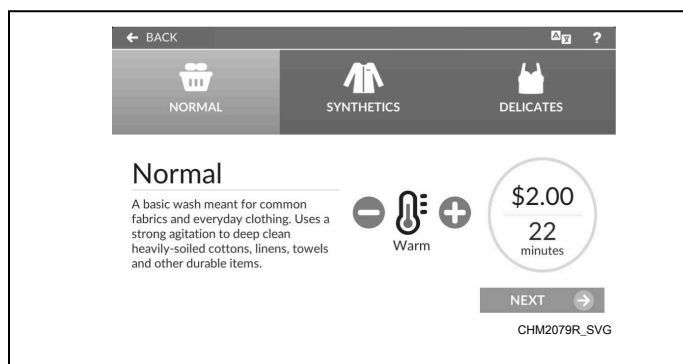

Figure 57
2. Select a cycle from the cycle options menu *Cycle Preset*. Select the desired temperature, then touch NEXT (refer to *Figure 57*).